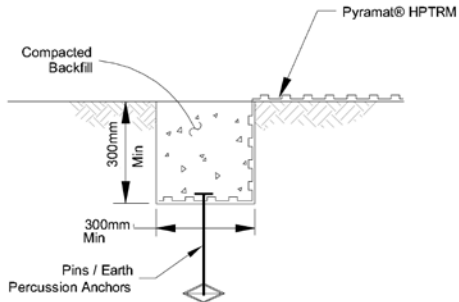

FIGURE 3: LONGITUDINAL EDGE TRENCH DETAIL
- Excavate longitudinal edge trenches 300mm x 300mm minimum along both sides of the installation to bury edges of mat (see Figure 3). The longitudinal edge trenches shall be located along the first and last installed rolls.
- Secure longitudinal edge trench with pinning devices on 300mm centers and with earth percussion anchors on 1.2m centers (see Figure 3).